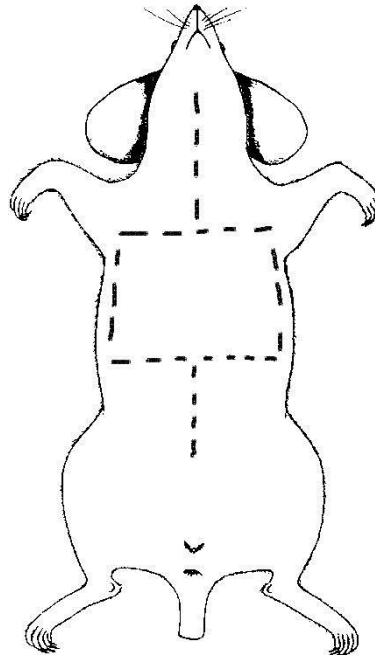

Figure 2: Incisions for locating the carotid and aortic arch
- 9) Using a small surgical scissors, cut across the diaphragm and through the rib cage on both the right and left lateral sides and remove the chest plate to fully expose the thoracic cavity. (See Figure 2)
- 10) Along the midline cut through the manubrium and incise cranially to the ventral neck region. (See Figure 2)